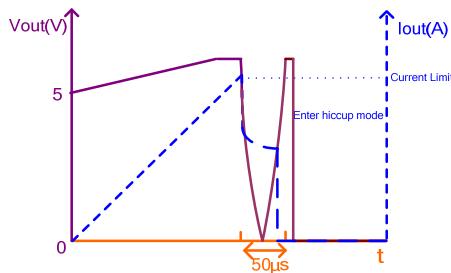

Figure 8: Over-Current Limit for CR Load
After the soft-start finishes, if the USB output voltage is lower than 3.5V and lasts longer than 50 μ s, the MPQ4481 enters hiccup mode without having to wait 5ms (see Figure 8). This can prevent an abnormal thermal rise during the constant resistor (CR) load over-current case.